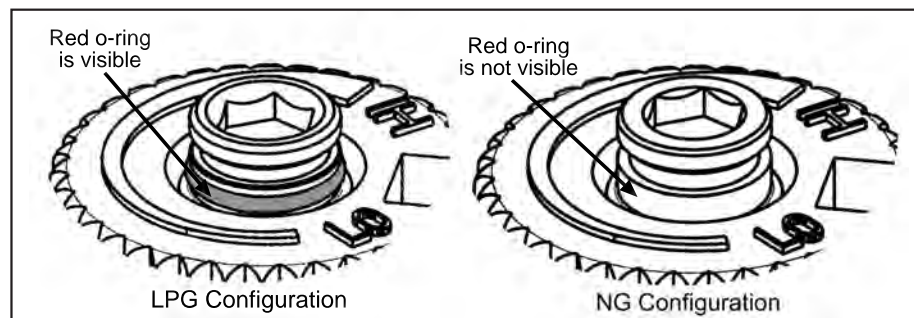

Figure 17: O-ring on valve screw.
- f) Verify that if the conversion is from NG to LPG, the screw must be re-assembled with the red o-ring visible (refer to Figure 17). If the conversion is from LPG to NG, the red o-ring of the screw must be not visible.